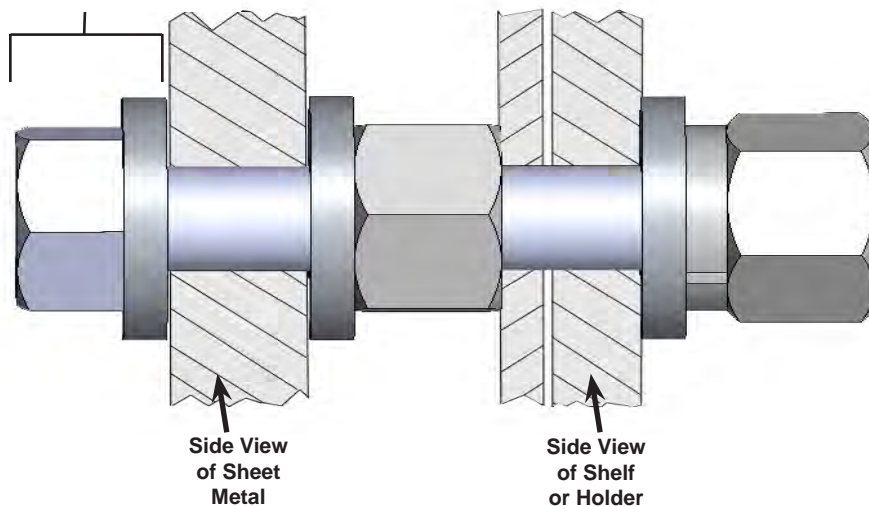

Figure 102. Install Fastening Hardware in This Order, Starting from Left
4. Install the Left Hand Door Panel and the Back Door Shelf Kit (P/N 000-163-050) onto the left hand door, using the fastening hardware included in the kit (see Figure 102).
Mount the fastening hardware onto the 10-24 X 3/4" screw in the order shown in Figure 102 and install as shown in Figure 101.
5. Install the Right Hand Door Panel and the Furniture Pad/Snap Block Kit (P/N 000-163-015) onto the right hand door, using the fastening hardware shown in Figure 102.